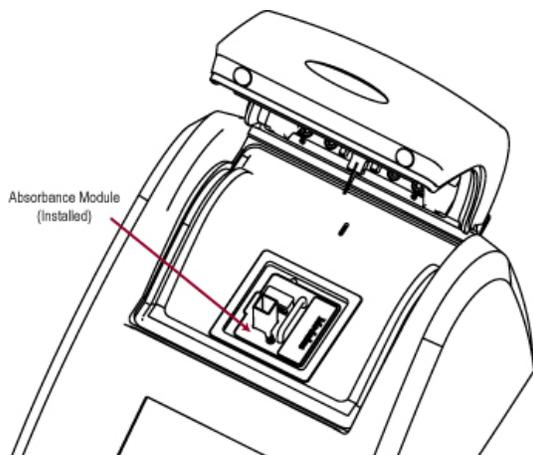

Figure 9
3. Press down to lock the Absorbance Module in place. (See Figure 9.)